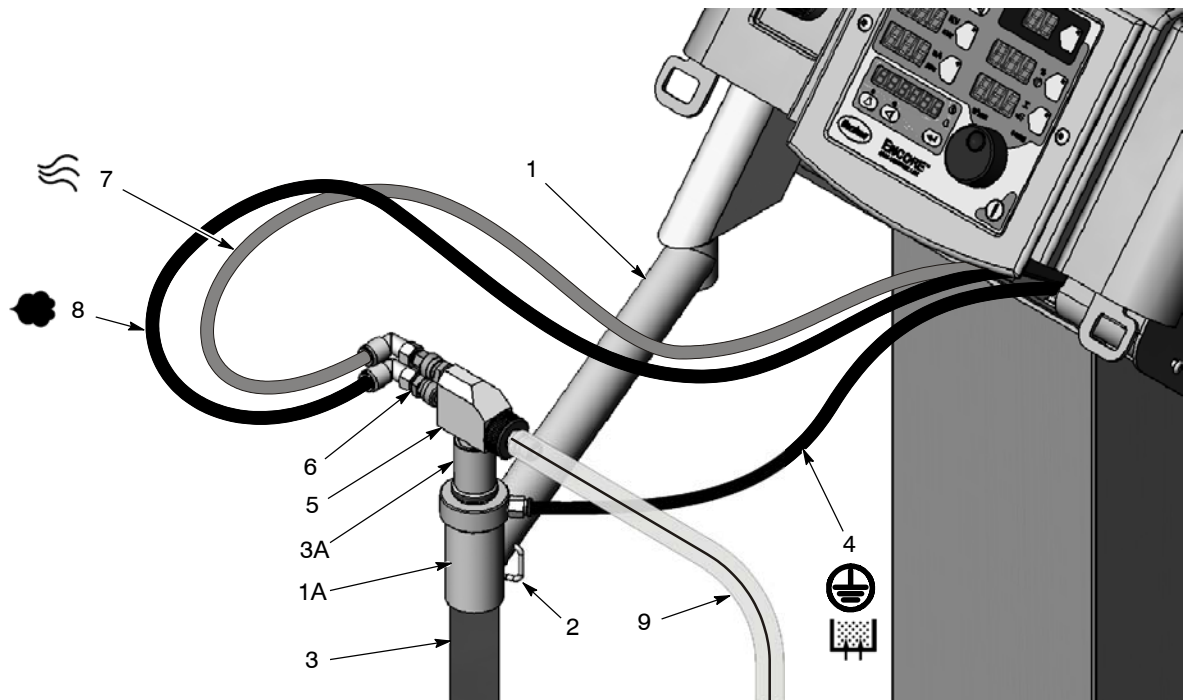

Figure 2-4 Pickup Tube and Pump Installation
1. See Figure 2-4. Unpack the pickup tube (3). Swing the arm (1) out, move the pickup tube catch (2) out of the way, then slide the pickup tube through the tube holder (1A).
2. Install the pump (5) into the pump adapter (3A) with a slight twisting motion.
3. Plug the 8-mm blue atomizing air tubing (7) into the top tube fitting on the pump.
4. Plug the 8-mm black flow-rate air tubing (8) into the bottom tube fitting on the pump.
5. Plug the 6-mm black fluidizing air tubing (4) into the tube fitting on the pick-up tube.
6. Connect one end of the powder feed hose (9) to the pump.
**NOTE:** The pump is equipped with quick-connect couplings (6) that allow you to quickly disconnect the air tubing when cleaning or repairing the pump. Pull back on the knurled coupling rings to uncouple them.